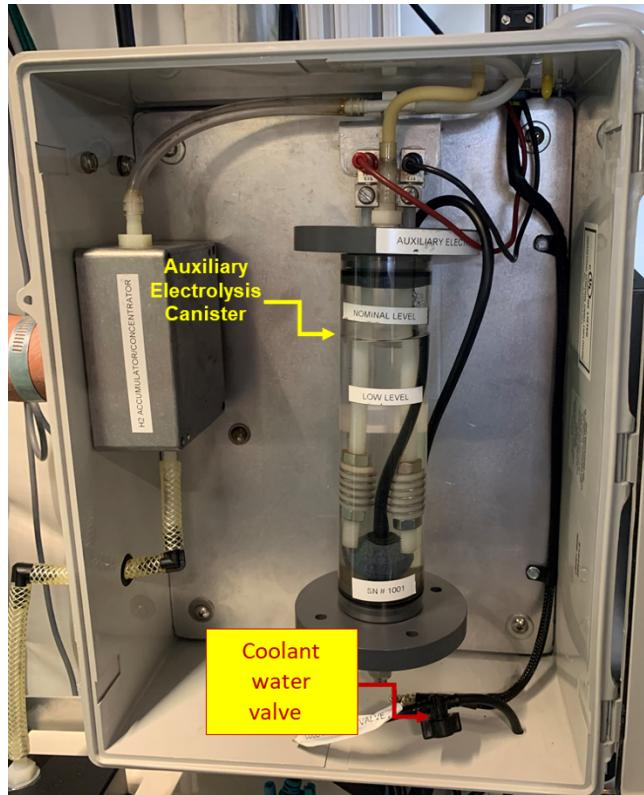

Figure 2: Coolant Water Valve
1.12 Turn coolant water valve (located on black tube behind the Auxiliary Electrolysis Canister) 90 degrees clockwise to “CLOSED”. (see Figure 2).